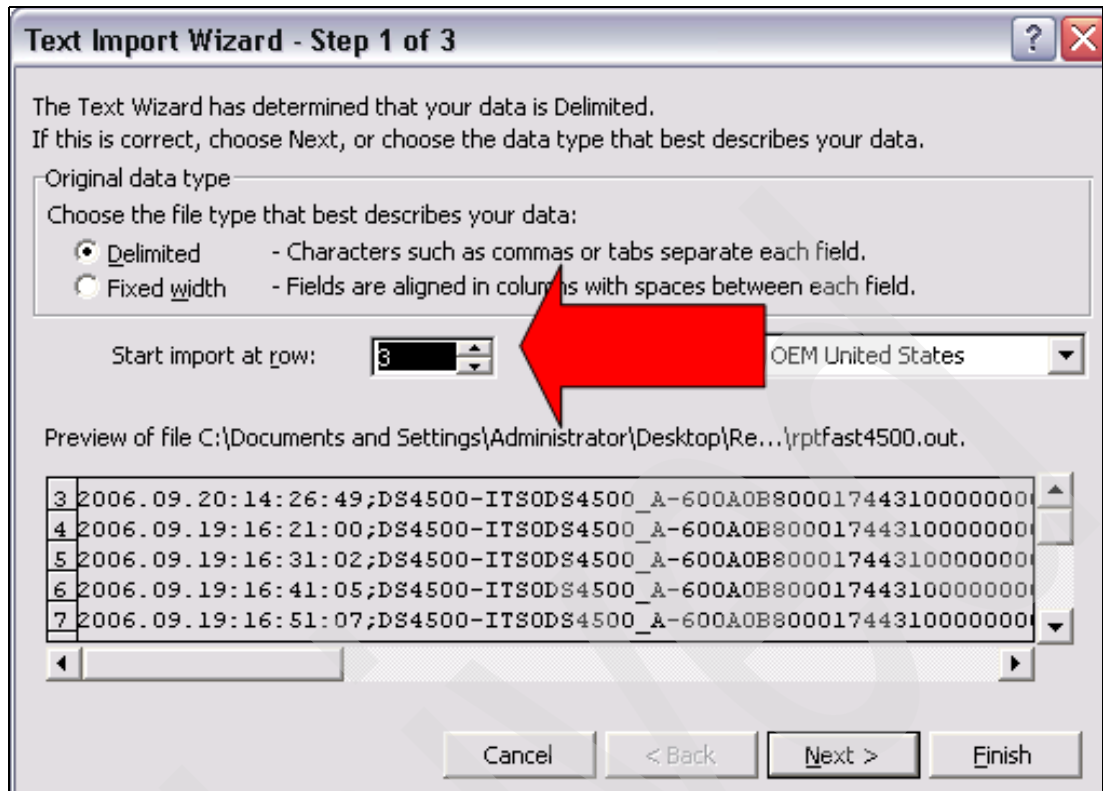

Figure 6-72 Change the start import row number in Excel
4. On the panel in Figure 6-72 on page 297, Text Import Wizard - Step 1 of 3, select **Start import at row** and choose row 3. This will remove the header from the source file and the additional separation line.